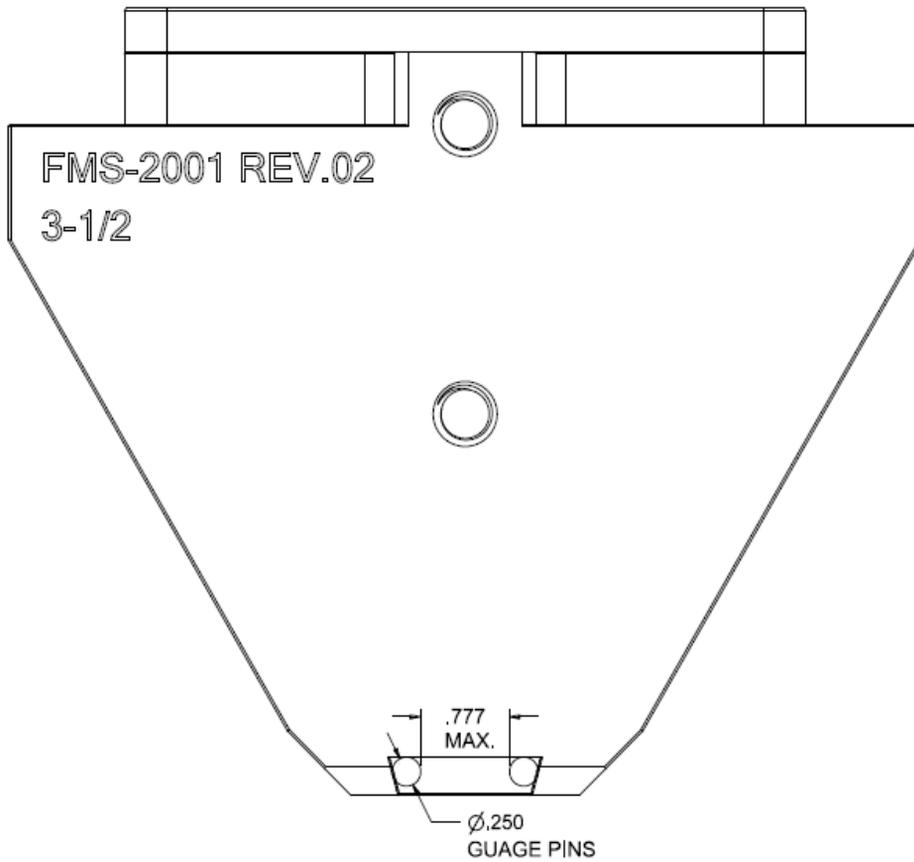

Fig. 39
- Remove the inserts, load carrier plates, and check the insert slots for wear or damage (see fig 39).